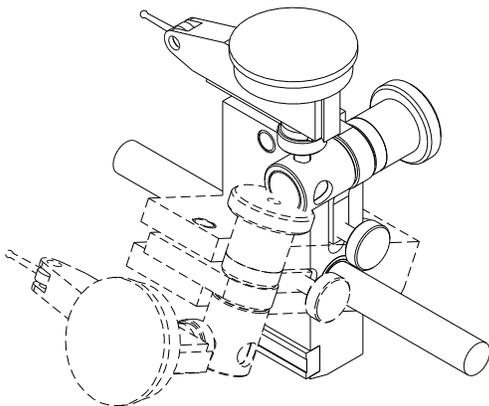
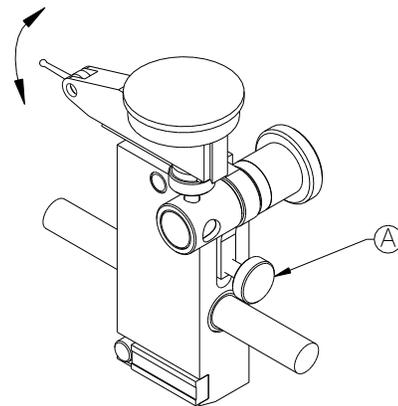

Figure 12. Tilt-away function
Figure 13. Fine adjust feature
## 8.0 Tilt-away and Fine Adjust – (See Figures 12 and 13)
The standard Indicator Carriers have three design features that allow quick and easy set-up. The first is the tilt-away feature that allows the user to move the carrier out of position for easier loading and unloading of parts (See Figure 12). The second is the fine adjust knob (A) (See Figure 13). Once a carrier is in close proximity to the part, the user can bring the tip of the indicator into position and zero it out. Lastly, the Carriers are adjustable along the shafts (Z-axis) for different part lengths.